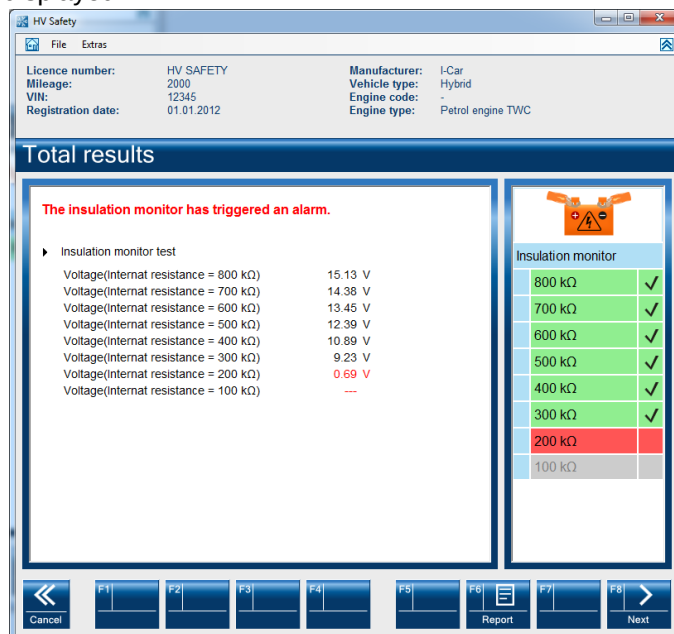

Fig. 3-9
6. The result of the measurement is displayed, see Fig. 3-9.